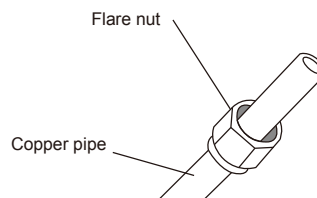

Fig. 6.3
- 3) Place flare nuts on both ends of pipe. Make sure they are facing in the right direction, because you can't put them on or change their direction after flaring. See Fig. 6.3.